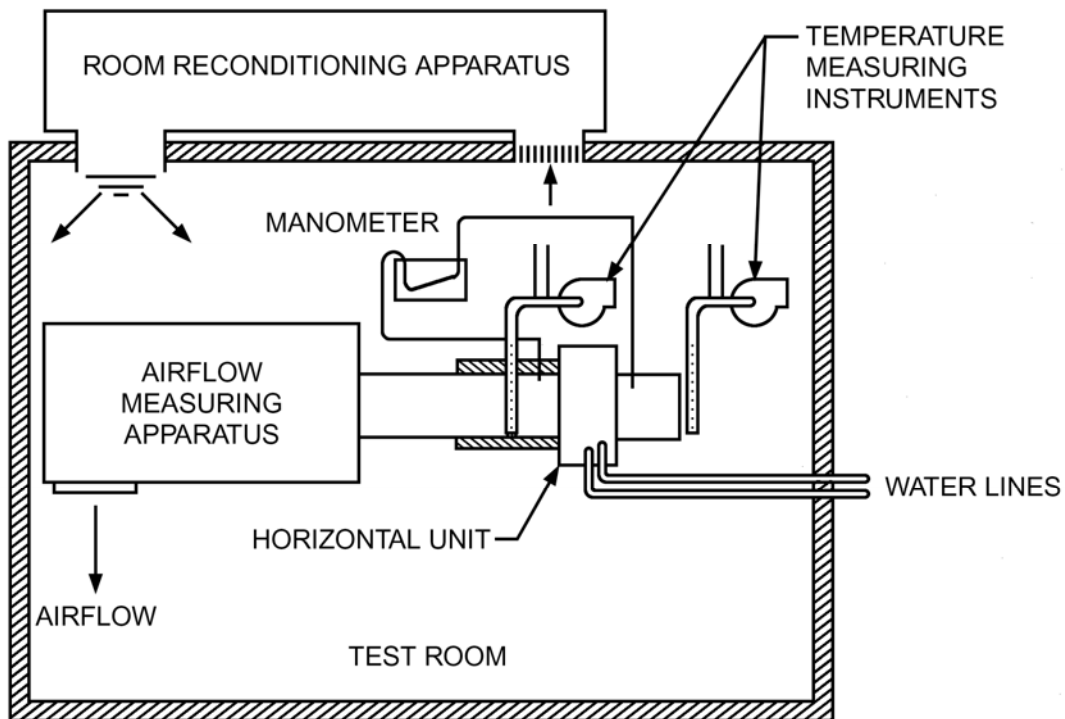

Figure 3a Tunnel air-enthalpy test method arrangement.
- 6**      **Figure 3a Tunnel air-enthalpy test method arrangement.** Replace the current figure with the one shown below.